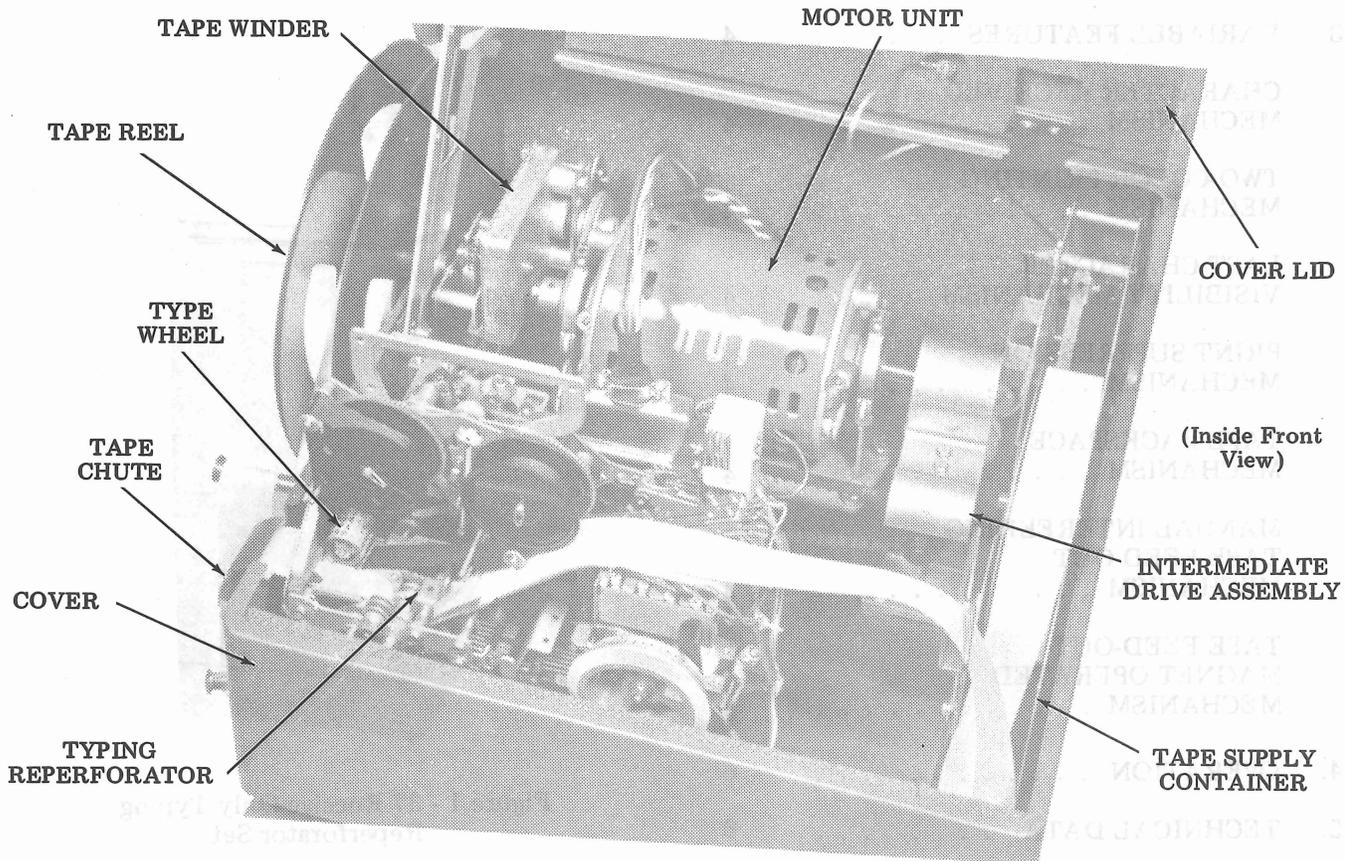

Figure 2 - 37 ROTR With Cover Open
2.02 This unit is a combination punch and tape printer (Figure 2). The electrical impulses (serial start-stop) are received from the signal line and converted into parallel mechanical action by the selector mechanism. The incoming character signal causes a series of mechanical actions which push the appropriate punch pins through the tape. The type wheel is also positioned for the appropriate character; the print
2.03 The motor unit furnishes the motive power for the typing reperforator, and for a tape winder mechanism if used (Figure 2). The motor unit is a complete assembly, consisting of a 1/20 hp synchronous motor which operates from 115-volt $\pm 10\%$ ac, 60 Hz $\pm 0.75\%$ frequency.
2.04 The intermediate drive shaft rotates at exactly twice the reperforator speed, with the change in speed made through the sprockets (Figure 2). The transfer of power from the intermediate drive assembly to the reperforator is by means of a toothed belt.
2.07 The cover provides a protective dust and noise-reducing enclosure. It encloses the motor unit and base parts of the ROTR set. The cover is fastened to the base pan and does not touch the base plate at any point. The base pan portion of the cover holds a tape container with low-tape contacts. A tape emission slot provides for discharge of tape through the tape chute. (The tape chute provides approximately 1-3/4 inch leader at the front of a message tape, Figure 2.) Openings at the rear of the cover are for cables from the electrical service unit or other circuitry. A circuit designation card can be mounted inside the cover under a transparent projection of the front plate.